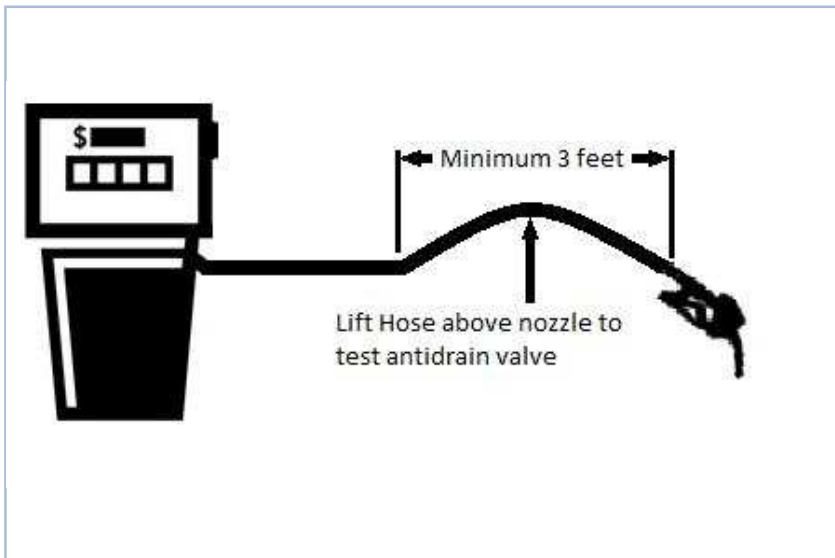

Figure 4. Proper Lifting of the Hose for the Antidrain Test
5. Continue to hold open the discharge valve. After verifying that there is no more flow, raise the hose so that the entire section that is within 3 feet of the discharge valve is higher in elevation than the valve (as shown in Figure 4). This will cause the weight of the fuel in the hose that is higher in elevation than the valve to apply a small amount of pressure on the antidrain valve. If it is set and maintained properly, the antidrain valve spring inside the nozzle should not allow the antidrain valve to open with only this small pressure acting on it. It should require the higher pressure of the pump to open.